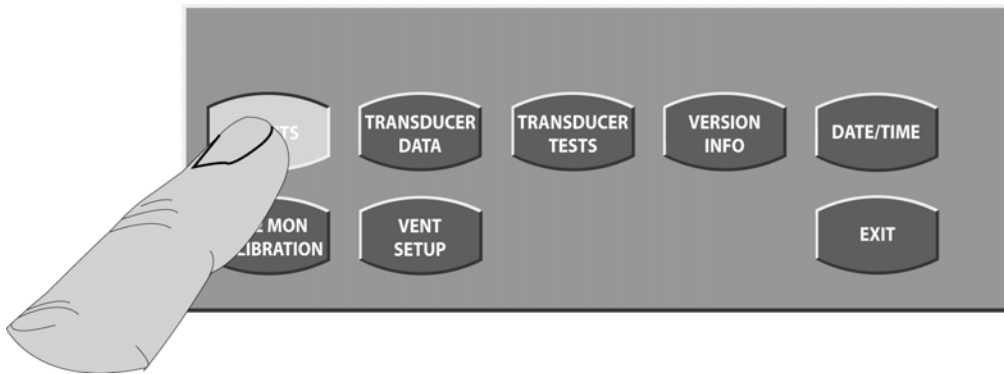

Figure 4.2 Press the Events touch screen icon
5. Press the **Patient Removed** touch screen icon, the UVT test selection screen displays (see figure 4.2).